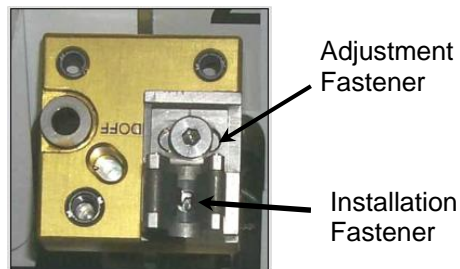

Figure 1.- K-BAR Capture Fitting Installation
2.2 Install K-BAR Capture Fitting, Left on NOD3AD5 standoff, Installation Fastener (Ratchet, 1/4" Drive, 5/32" Hex Head, 3/8" Drive). Refer to Figure 1.